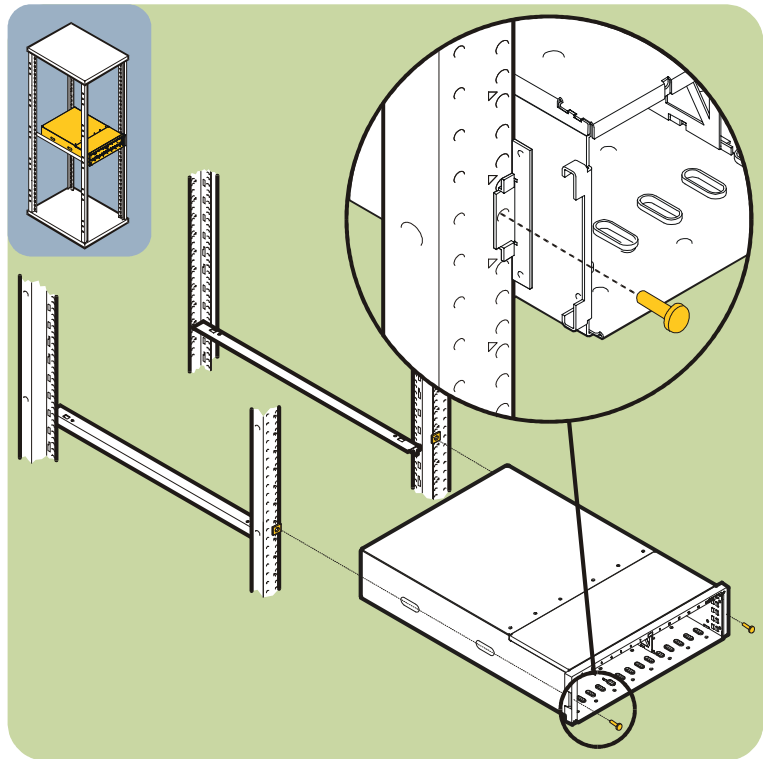

Fig. 27. Sliding the array into HP Computer Cabinet
8. Place the array on the rails and slide it all the way to the rear (see Fig. 27).